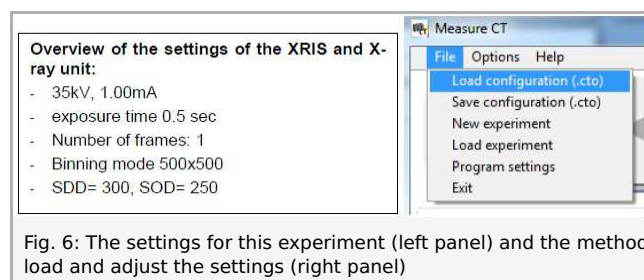

Fig. 6: The settings for this experiment (left panel) and the method load and adjust the settings (right panel)
- Adjust the XRIS settings and X-ray unit settings according to fig 6 or load the configuration from the predefined CTO file 'Experiment 6' (see Fig. 6).